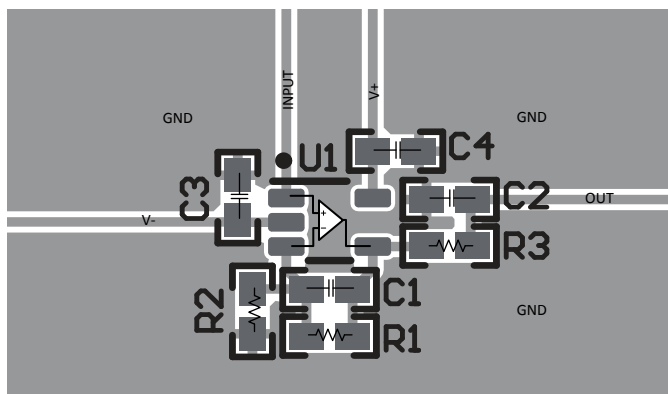

図 7-4. Example Layout for SC70 (DCK) Package
- Place the external components as close to the device as possible. As shown in Figure 7-4, keeping RF and RG close to the inverting input minimizes parasitic capacitance.